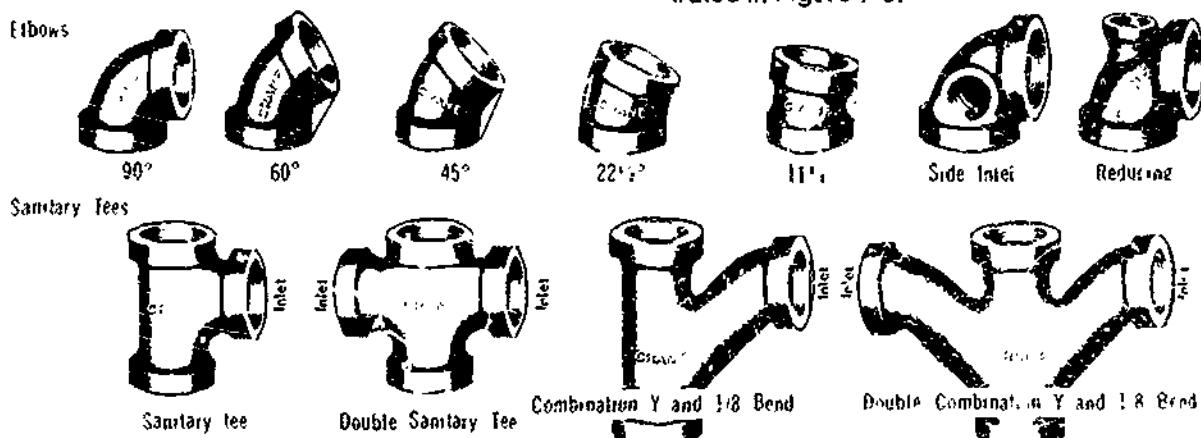

Figure 7-5. Elbows and Sanitary Tees
7. A few types of recess drainage fittings are illustrated in Figure 7-5.